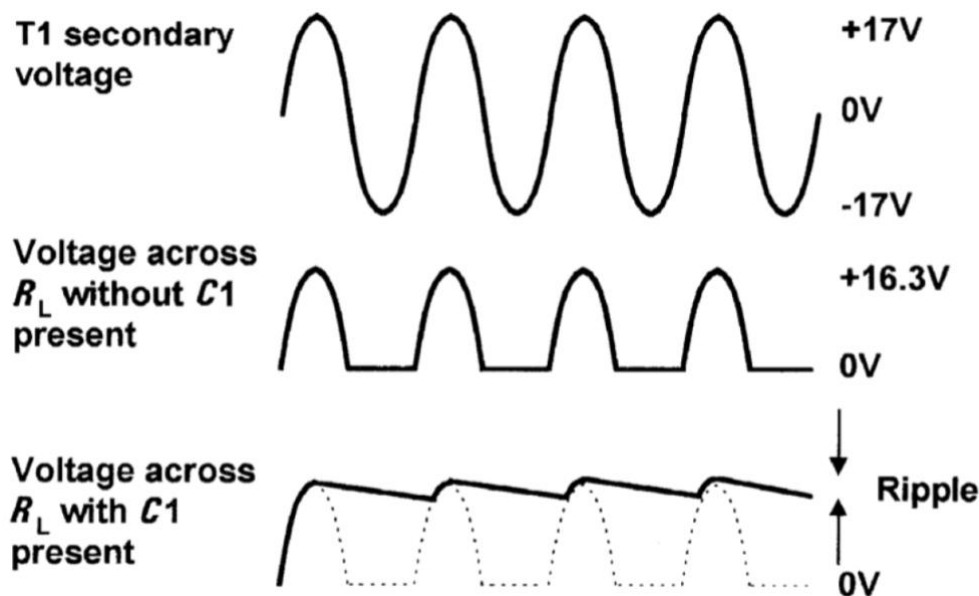

Figure 1.8 A simple half-wave rectifier circuit with reservoir capacitor
- Fig. 1.8 shows the secondary voltage waveform together with the voltage developed across  $R_L$  with and without  $C_1$  present.